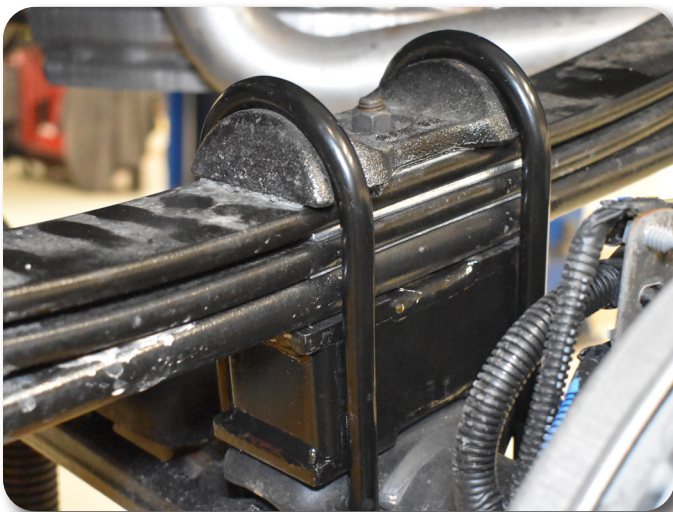

Figure 3A (2025 Pictured)
8. Using the support jack, raise the axle so that the axle, spring and block are all touching. Install the new provided U-bolts, nuts and washers allow with the factory U-bolt plate. Snug U-bolts but do not tighten. Figure 3A, 3B